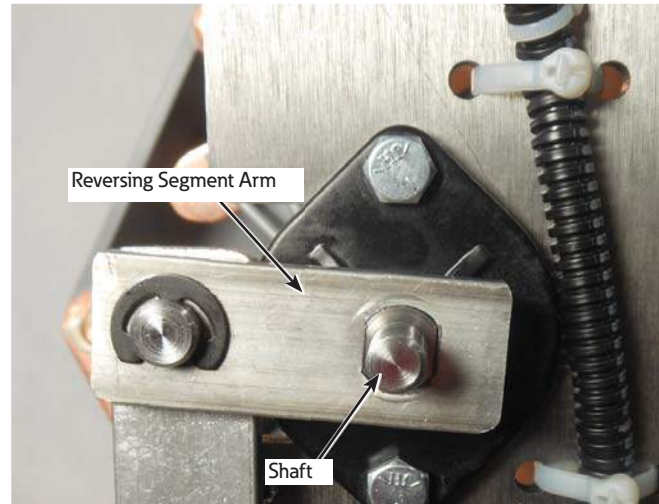
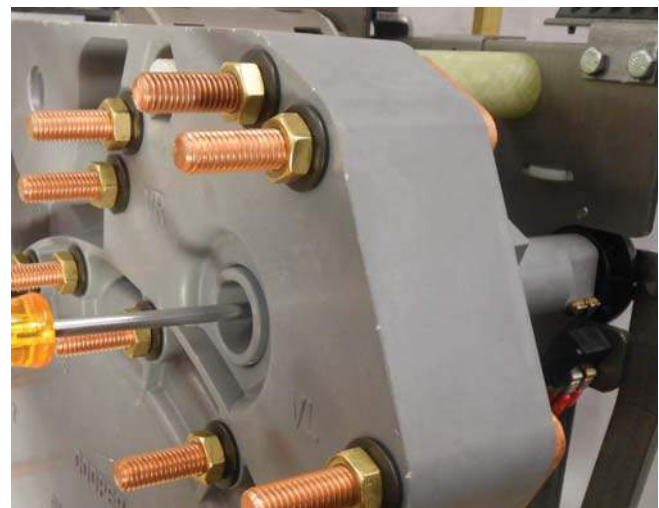

Figure 21. Installing reversing segment arm
Figure 22. Positioning the reversing movable with the bushing
25. Place the reversing segment arm onto the reversing actuator shaft. Align the square portion of the shaft with the square hole in the arm. If needed, place a screwdriver through the movable contact tube and push the shaft forward while seating the arm over the shaft. It may be necessary to rotate the movable contact assembly slightly to align the shaft and hole. See Figure 21 and Figure 22.